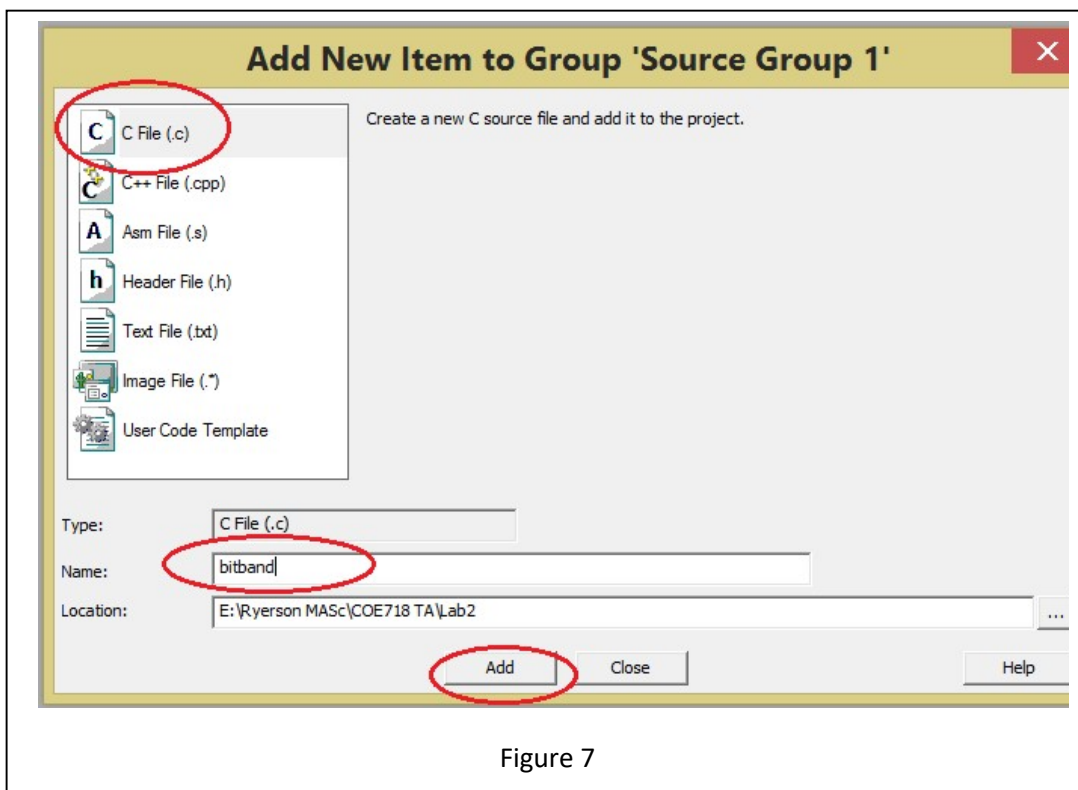

Figure 7
7. Select C File(.c) name it 'bitband' click Add as depicted in Figure 7. The C file will be added to the project.